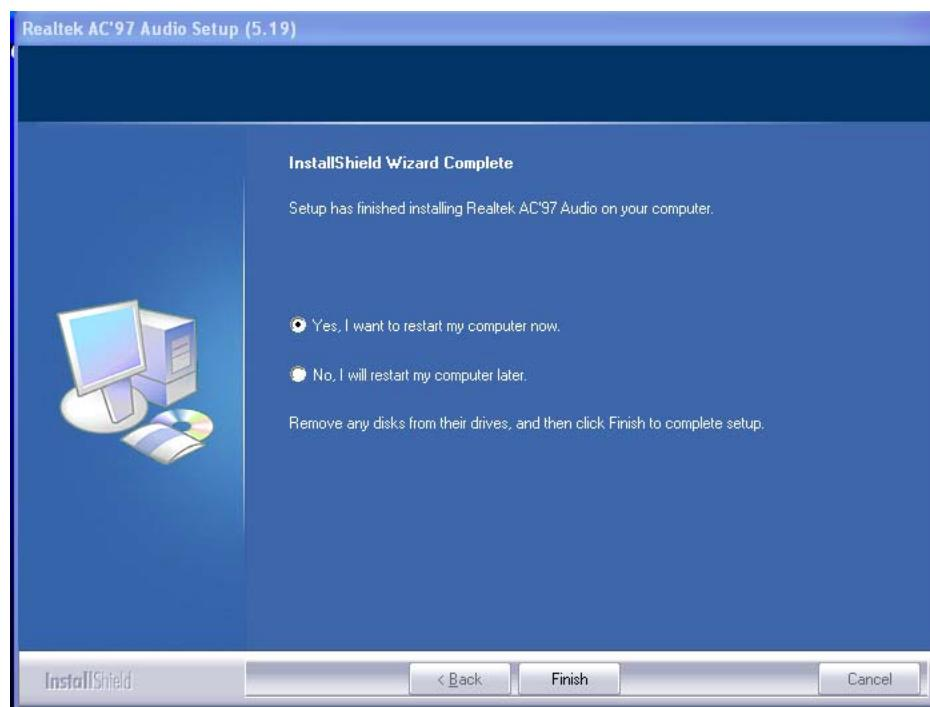

Figure 6-25: AC'97 Driver Installation Complete
Step 11: When the driver is installed, the driver installation finish screen in **Figure 6-25** appears.